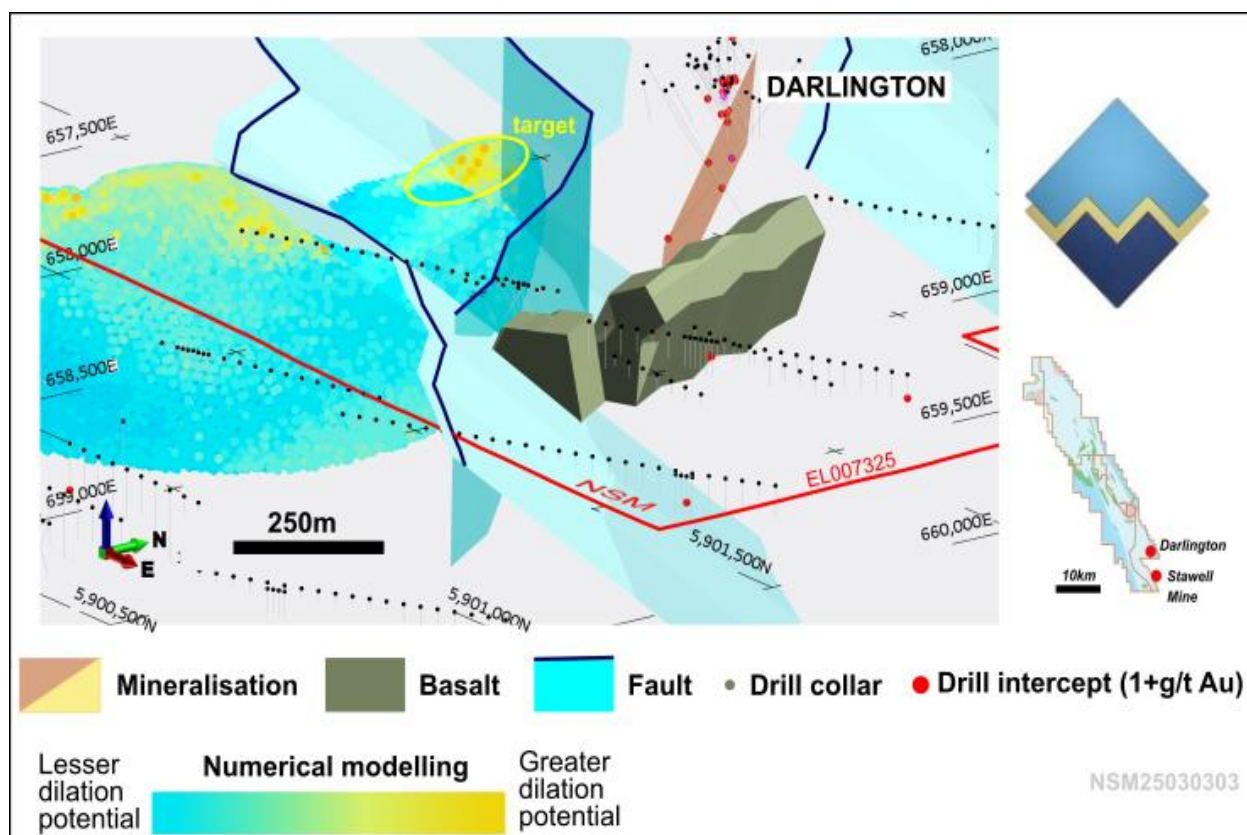

Figure 3 Numerical modelling target at Darlington West.
- the acquisition of high resolution AGG gravity data(ASX:NSM 8 June 21), which highlights a large, broad gravity anomaly occurring 500m west of the Darlington Mine on the Browns Trend (Figure 3).
The initial geophysical “shape” of the basalt suggests that the West Darlington basalt is a slice of basalt running for 700m truncated to the north and south by NW-trending late faults (Figure 3). These faults occur throughout the Browns trend and at Stawell and are known to offset Stawell-type mineralisation. NSD058 intersected basalt deeper than anticipated, allowing a re-modelling of the gravity data to best-fit the new information about the position of the basalt (figure). This new constraint, as well as the position of the identified mineralisation zones, will help determine next-phase exploration to follow up on the results.